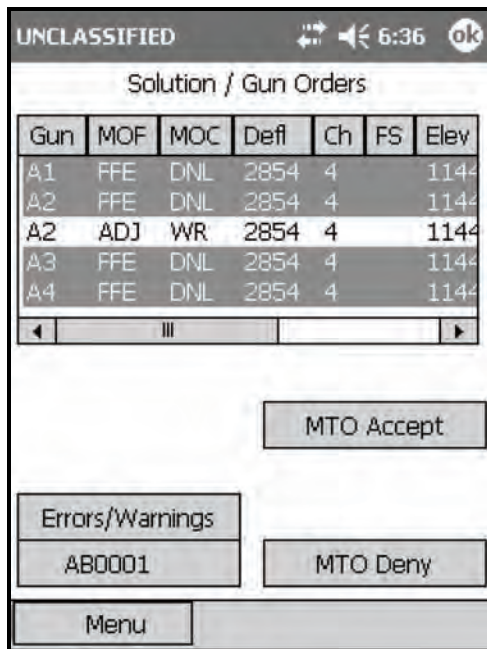

Figure 18-25. Digital Fire Mission: Solution/Gun Orders screen.
- (11) If the data is correct, select Use All.
- (12) The Solution/Gun Orders screen (Figure 18-25) displays.